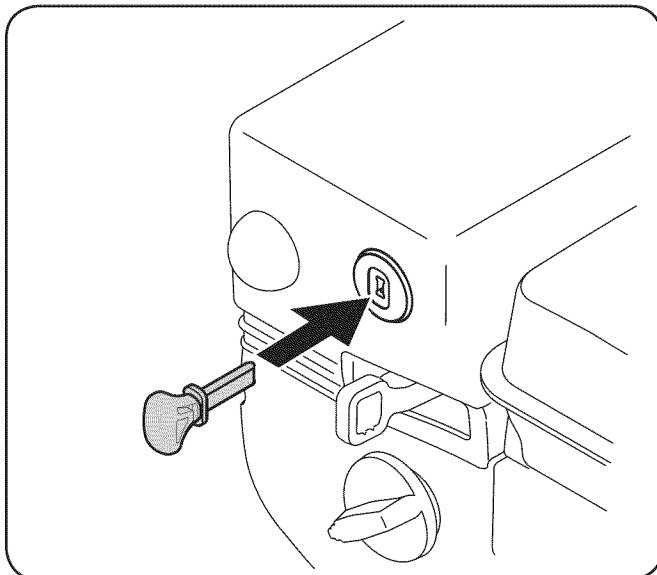

Figure 5-1
2. Insert the key fully into the slot, Fig. 5-1. Make sure it snaps into place. DO NOT turn the key. The engine cannot start unless the key is inserted into the ignition switch.
1. Insert the key fully into the slot, Fig. 5-1. Make sure it snaps into place. **DO NOT** turn the key. The engine cannot start unless the key is inserted into the ignition switch.
4. Push the primer three (3) times, making sure to cover the vent hole when pushing. If the engine is warm, push the primer only once. Always cover the vent hole when pushing. Cool weather may require priming to be repeated.